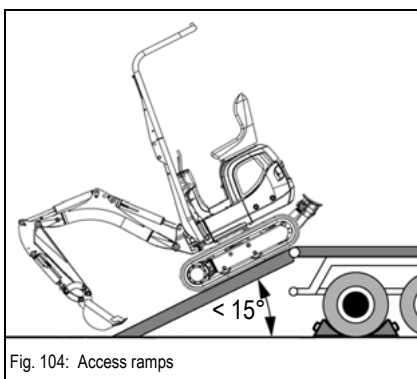

Fig. 104: Access ramps
- Rotate the upper carriage to the rear (see figure 104)